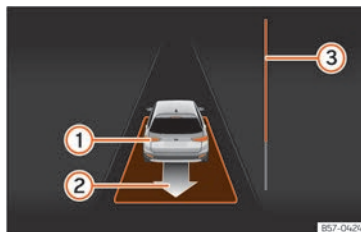

Fig. 168 On the instrument panel display: exit a parallel parking space.
The progress bar »» Fig. 168 ③ indicates the distance to cover »» page 246.
- Press the brake pedal until the parking assist system completes the steering wheel turns; **OR**: press the brake pedal until the symbol ③ goes out on the instrument panel screen.